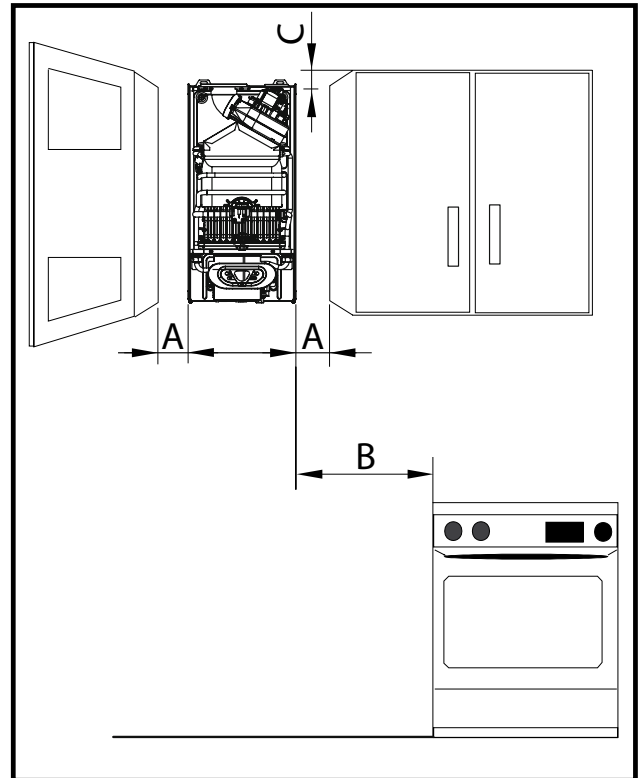

fig. 7 - Minimum distances
- 1 - Open the packaging, and you'll find an assembly template for the unit inside. Place it on the wall at the appropriate height **(be sure to observe the distances, fig.7)**, and make sure the template is as horizontal as possible (using a level).